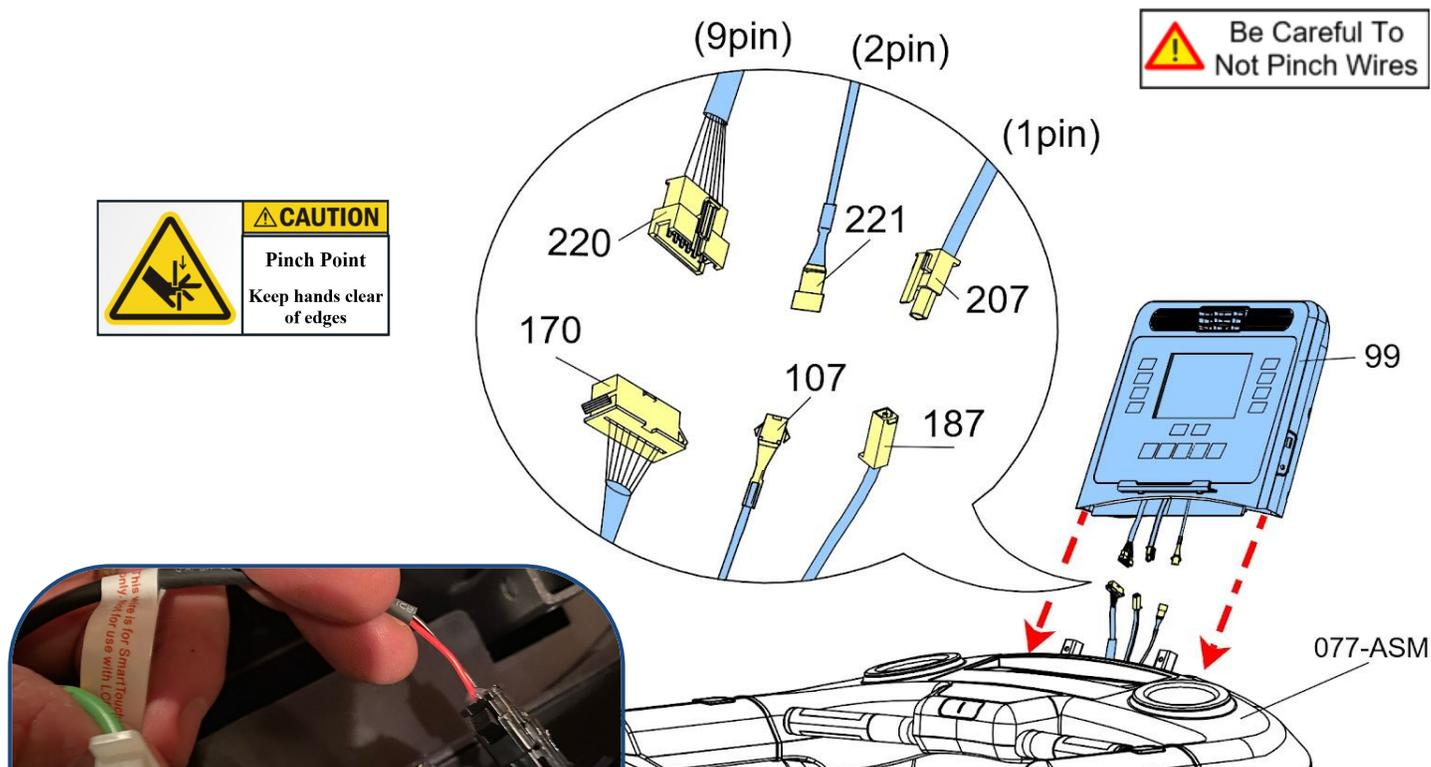

Fig. 13
b. After all cables are connected, confirm they are fully locked together. Then GENTLY slide the console onto the U-Shaped tubes without damaging any cable or connections. See pic on Fig. 13.